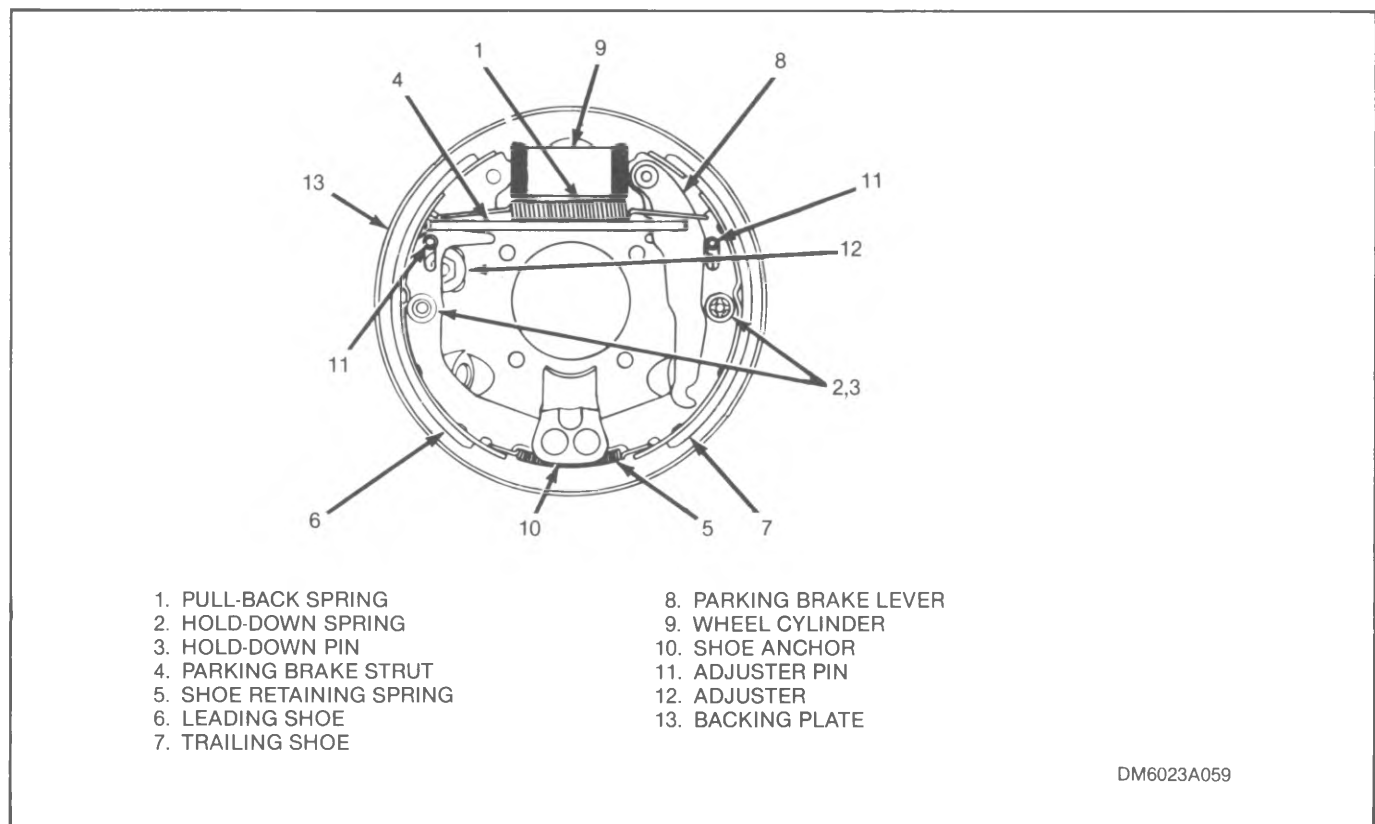

Figure 4-15. 1976-79 Chevette Leading-Trailing Shoe Brake Parts
4-24. 1976-79 CHEVETTE LEADING-TRAILING BRAKE. Refer to figure 4-15 for identification of parts for this type brake. After removing brake drums (refer to paragraph 4-21), proceed as follows to remove and replace brake shoes and hardware:
13. Install parking brake lever (8) (see figure 4-15) to the trailing shoe (7). Check that lever moves freely.
14. Connect leading and trailing shoes (6 and 7) together with retaining spring (5).